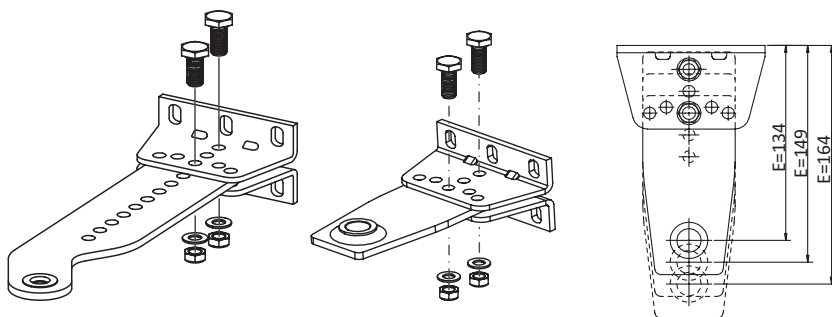
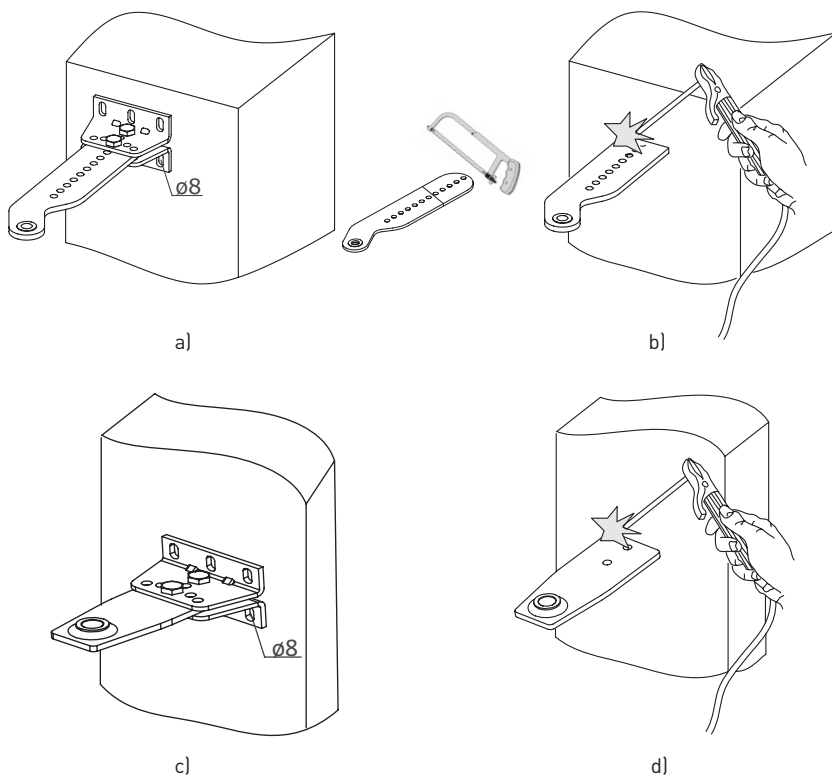
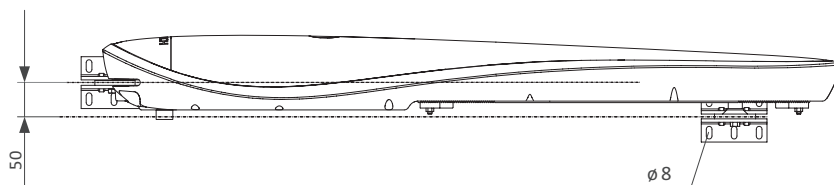

Figure 8. Assembling a rear, front fitting
Figure 9. Mounting a rear or front fitting
Figure 11. Mounting a front fitting
E — dimension between a leaf edge and the axis for mounting a drive on its front fitting (fig. 8), minimum dimension E=134 mm;  $\alpha$  — leaf opening angle;
- after defining the mounting dimensions, **A** and **B** and a location to attach a rear fitting to the post, select an assembly type for the rear fitting (*tab. 6, fig. 8*). When needed, cut the bracket of the rear fitting to the required size. In case the bracket is not long enough, use improvised materials to add length to the rear fitting.
- fix the rear fitting on the post, either bolting it down or welding (*fig. 9*). Make sure the fitting is positioned horizontally. The fitting should be assembled and mounted rigidly.
- ensuring compliance with the mounting dimension **W**, fix the front fitting on the leaf (*fig. 11*). The length of the front bracket **E** can be adjusted (*fig. 8*), in this case note the condition  $B > X$ . In case the bracket is not long enough, use improvised materials to add length to the front fitting. The fitting can be bolted or welded to the leaf (*fig. 9*). Use a spirit level to verify throughout the mounting process.